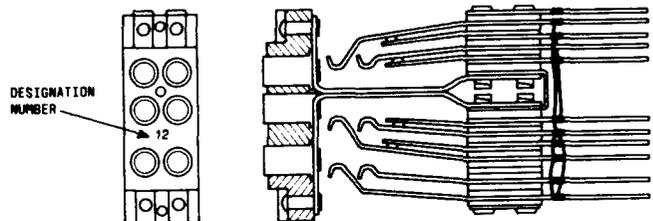

Fig. 2—KS-21156, L1 Through L31, Jacks
**2.02** *KS-21156, L1 Through L31:* The KS-21156, L1 through L31, jacks (Fig. 2) consist of